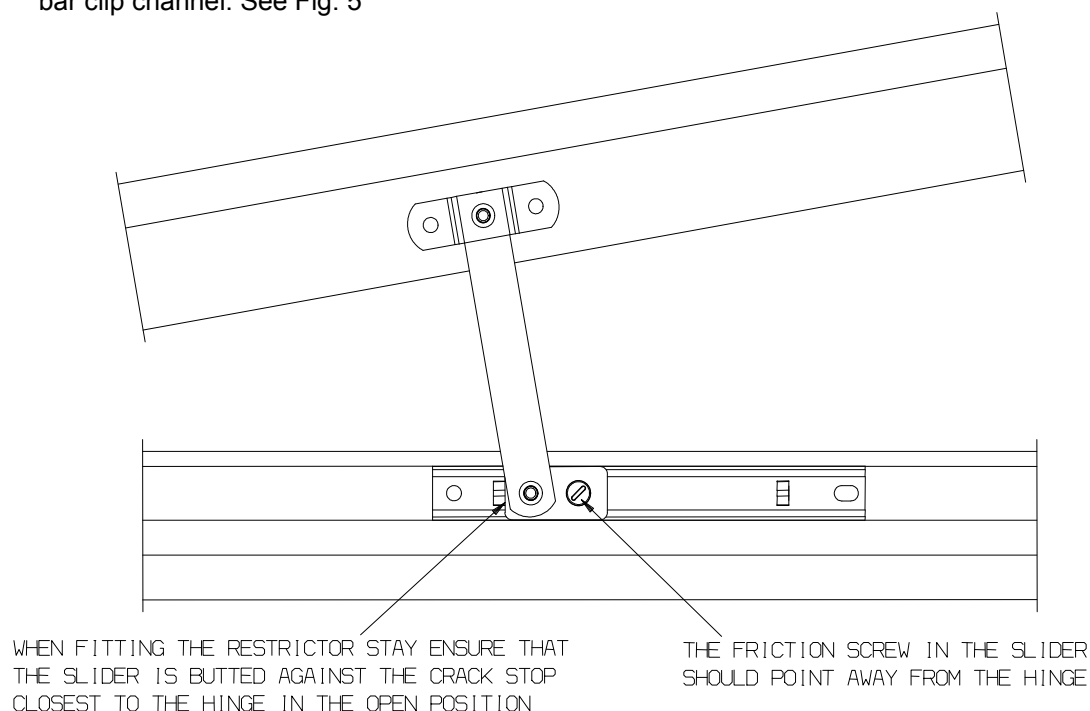

Fig. 5
- 2.1.17 Position the Restrictor Stay track with the stay in its open position against any sideways hinge location features or in the hinge location channel on the frame, commonly the glazing bar clip channel. See Fig. 5